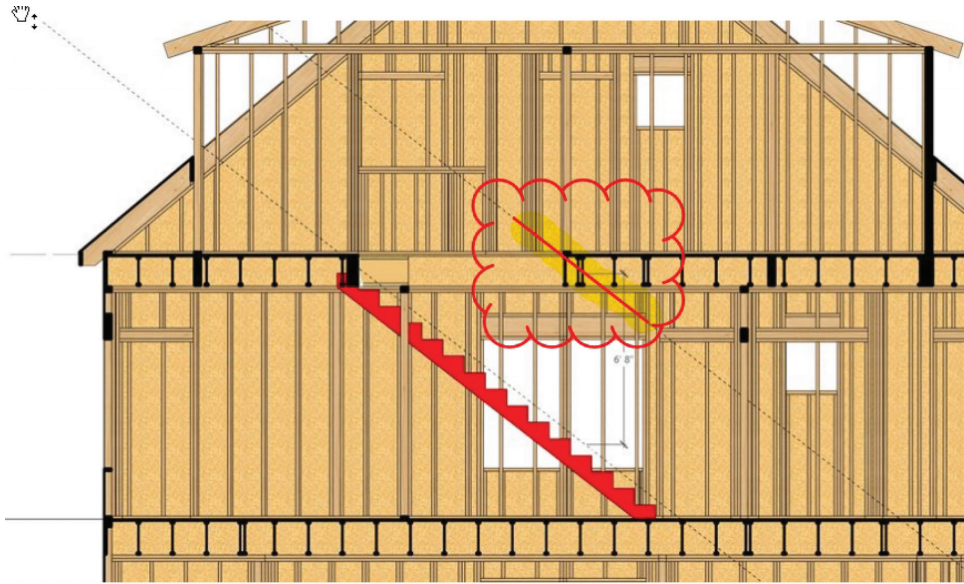

Figure 12.39 Case Study 2.
- B.** There is clearly insufficient headroom. The dashed line in the image (see Figure 12.39) represents 6'8" headroom. Had the TJIs been installed per the engineer's layout and then built the stairs, they would have been in for a huge headache, expense, and work stoppage!